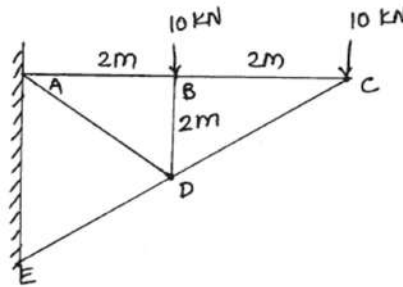

Fig. No. 6
- 12 Determine the forces in the members AB, AD and DE of the cantilever frame as shown in Figure No. 6 by method of section.